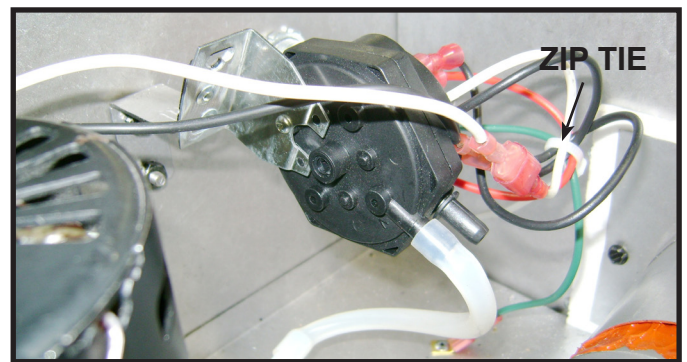
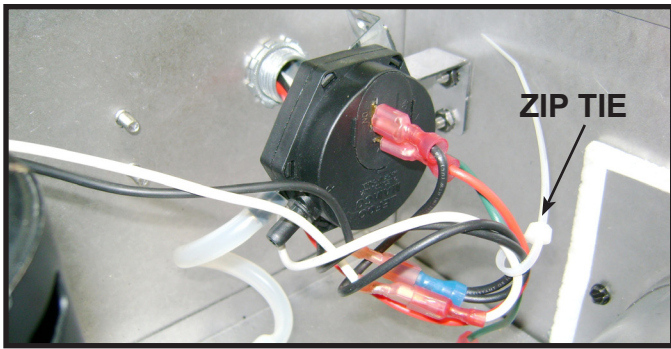

Figure 7.18 PVI Horizontal Orientation - Switch and Wire
Figure 7.19 PVI Vertical Orientation - Switch and Wire
- c. Attach the end of the harness with the loose wires to the PVI-DVP. Use supplied zip ties to contain all loose wiring. See Figure 7.18 and Figure 7.19.
of the PVI. Move and secure the vacuum switch onto the adjacent wall using the two bolts that are sticking out of the surface. See Figures 7.18 and 7.19 for reference.